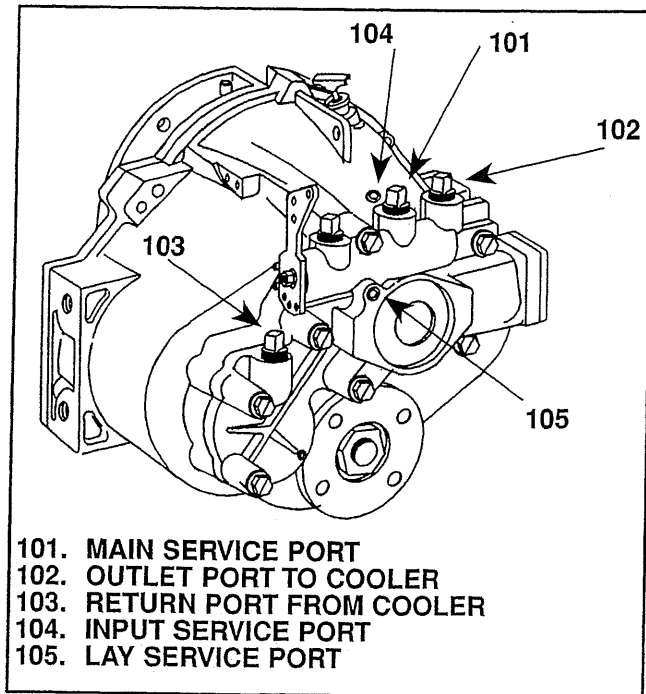

Figure 2-5. Service Port Locations
**2-18. CONTROL VALVE AND PUMP ASSEMBLY PRESSURE TEST.** Perform the following test to determine if the control valve and pump assembly is functioning properly (see figure 2-5):
1. Check fluid level as described in paragraph 2-5 and adjust level as required. Disconnect the propeller shaft (109) from the transmission output flange (18) and separate the flanges completely.
2. Remove the sensor or plug installed in the sensor port (101) and install 0-100 psi (690 kPa) gauge in 3/8-18 NPSF thread port. Remove to-cooler hose from outlet port (102) and install a minimum 10 gal/min (38 lt/min) flow meter. Be careful to follow the flow meter manufacturer's instruction. (see figure 2-5)
4. Pressure in sensor port (101) should read 10-50 psig (68-345 kPa). Flow meter should indicate 0.45 gpm to 3.96 gpm (117 lt/min to 15 lt/min).
5. Increase engine speed to 2400 rpm, pressure in port (101) should read 15-70 psig (103-483 kPa). Flow